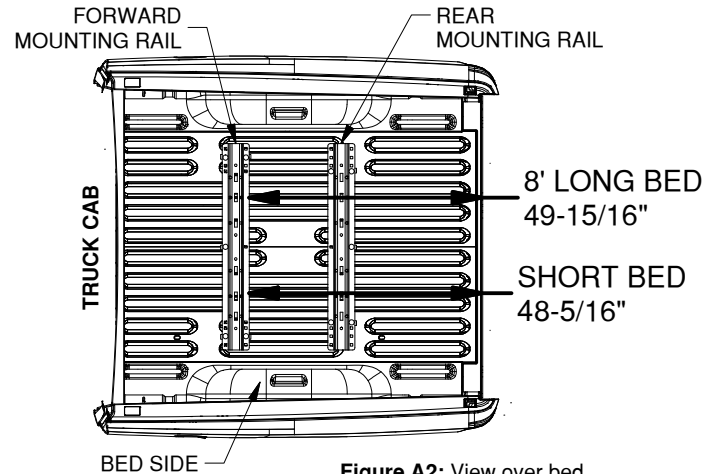

Figure A2: View over bed.
1. **Layout the forward mounting rail.** Place a mounting rail onto the bed of the truck. Hook a tape measure over the rear edge of the bed (not on any part of the tailgate), measure the location for the mounting rail, as shown in Figure A2. Next, center the mounting rail in the bed by measuring the distance on either side from the edge of the rail to the sides of the bed. The rail will be centered when both measurements on either side of the rail are the same.